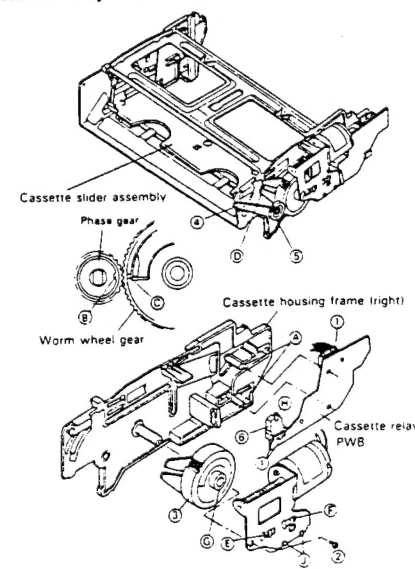

Figure 1-2.
• Disassembly (Fig. 1-2)
1. Remove the lead connector ① from the cassette relay PWB.
2. Loosen the two tabs ② at the cassette relay PWB and remove the cassette relay PWB from the frame.
3. Remove the screw ② from the cassette motor bracket and detach the cassette motor assembly together with the cassette relay PWB from the cassette housing frame.
4. Withdraw the worm wheel assembly ③.
• Reassembly (Fig. 1-2)
2. Turn the phase gear ⑤ clockwise until it stops.
3. After setting up the worm wheel assembly, fit the alignment mark ⑥ of the worm wheel assembly to the alignment mark ⑦ of the phase gear. Then insert them into the frame shaft: this time, check that the tab ⑧ of the cassette slider assembly is engaged with the drive arm groove. The worm wheel is likely to fall off the frame shaft in this step: be sure to hold the worm wheel by hand.
4. Align the tab ⑨ of the timing lever with the worm wheel groove ⑩ and secure the worm wheel assembly with the screw ②.
5. Align the tab ⑪ of the timing lever with the groove ⑫ of the cassette mode switch ⑬, and secure the cassette relay PWB with the frame's tab ②: this time, check that the two tabs ① of the cassette mode switch are surely engaged with the cassette motor bracket groove ⑭.